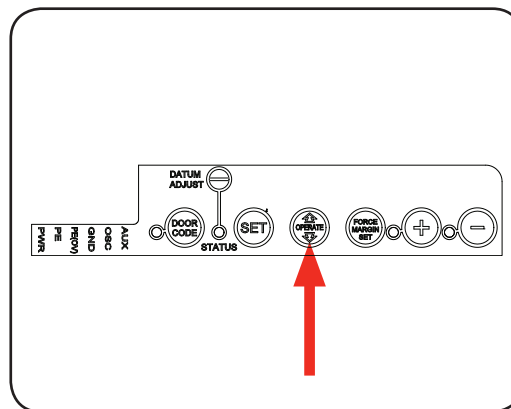

Fig. 29
- Press the OPERATE button to open the door (Fig. 29).
- Press the OPERATE button to close the door (Fig. 29).
- Press and hold the FORCE MARGIN SET button (Fig 29).